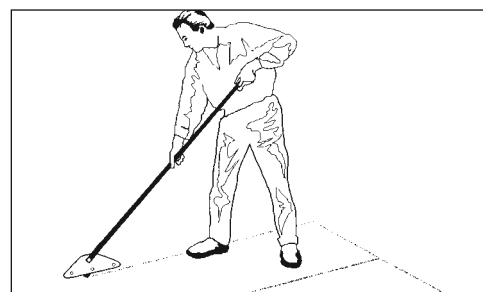

FIG. 5
- Sheet vinyl, solid vinyl, rubber tile, urethane, or PVC sheet roofing will need to be scored for best removal results. Score flooring to the width of the blade with NFE's #584 Scoring Tool (Figure 5).